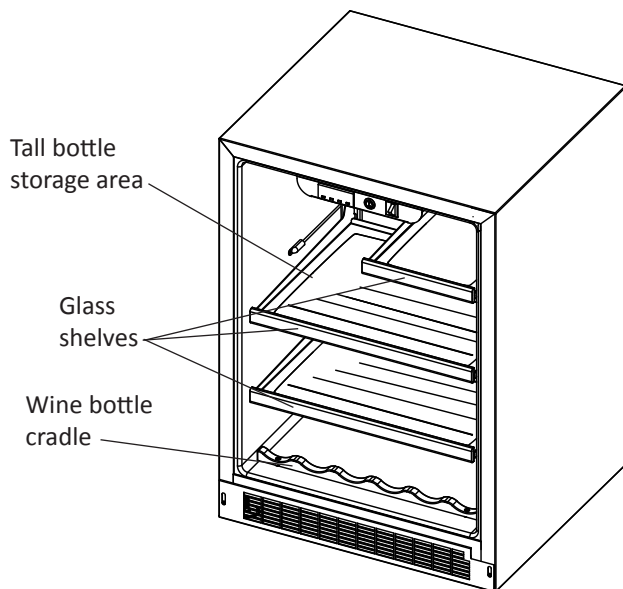

Figure 14
The basic cabinet (6GARM) comes with 3 glass shelves which can be positioned anywhere in the cabinet. The glass half shelf allows storage of tall bottles or opened wine bottles on the shelf below. (See Figure 14). The Professional Series (MPRO6GARM) has 2 full width slide out shelves. The fixed wooden bottle cradle at the bottom of the cabinet will hold 6 bottles of wine. The wooden, bottom bottle cradle may be removed for storing "jug" wines. Just remove the two (2) screws that secure the cradle to the cabinet floor.